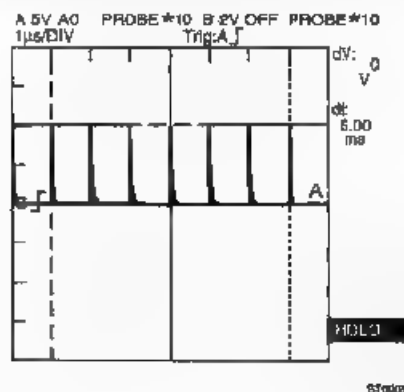

Figure 4.11 Cursor lines on marker pulses
- G Position the cursor lines with the <CURSOR -1-> and <CURSOR 2-> keys, so that they cover a distance of 11 time marker intervals. Position the markers exactly to the top of the marker pulses. See figure 4.11.